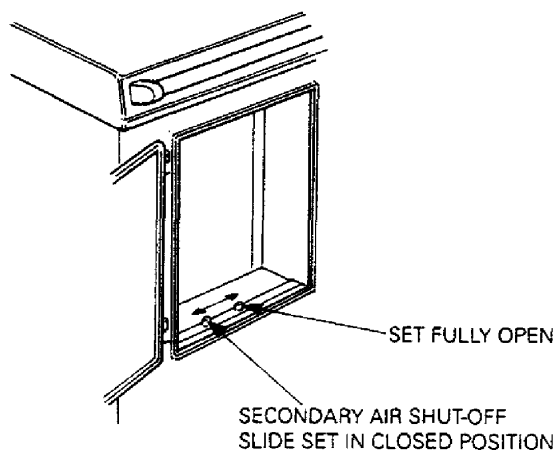

Fig. 10
- With fire established, open firebox door and fill firebox with fuel. Check secondary air slide setting (Fig. 10). **Close and lock firebox door.** Push flue chamber damper back to position which has been found to give desired burning rate.